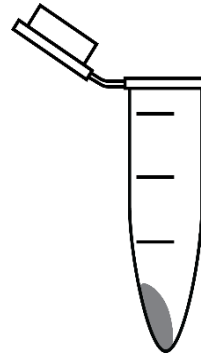

Figure 2 - Schematic drawing of a microcentrifuge tube with a pellet (grey area).
4. Obtain the centrifuged tubes. The *Paramecia* are now collected in a so-called 'pellet', at the bottom of the tube with your group number, a little to the side of the tube where the cap attaches (see Figure 2).